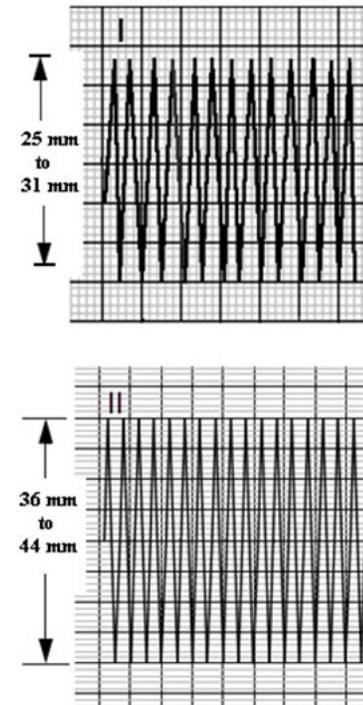

Figure 1.13: ECG Gain at Lead I and Lead II
4. Print five seconds of ECG Lead I and confirm the printed signal amplitude is 25 mm to 31 mm, peak-to-peak as shown in Figure 1.13.
6. Print five seconds of ECG Lead II and confirm the printed signal amplitude is 36 mm to 44 mm, peak-to-peak as shown in Figure 1.13.